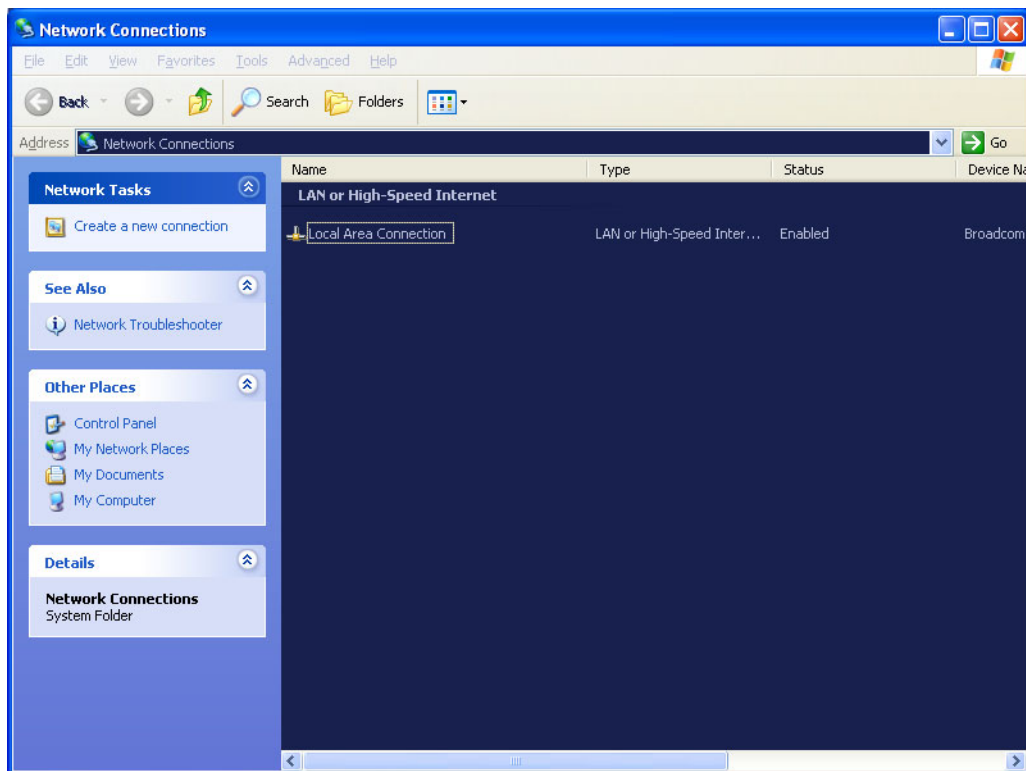

Figure 3-45 Network Connections
- 1.) When in the TCP/IP screen, select **ADVANCED SETTINGS** to display the **Network and Dial-up Connections** screen, see Figure 3-45 "Network Connections" on page 3-52.